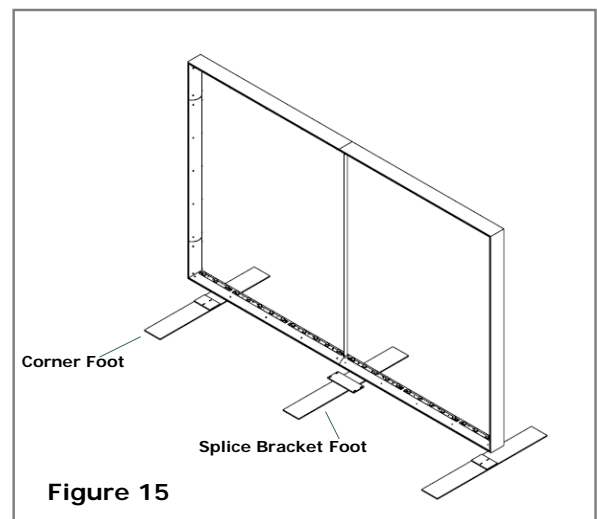

Figure 15
2. Position the feet so that they are in front of the frame, aligned with each other, and near the screw holes for each foot in the frame. A foot that goes under a Splice Bracket will look different from a foot that attaches near the corner of the frame. **See Figure 15.**
3. Remove the socket head cap screws that are pre-installed in the feet and retain. Stand the display frame up vertically and onto the mounting feet. **See Figure 15.**